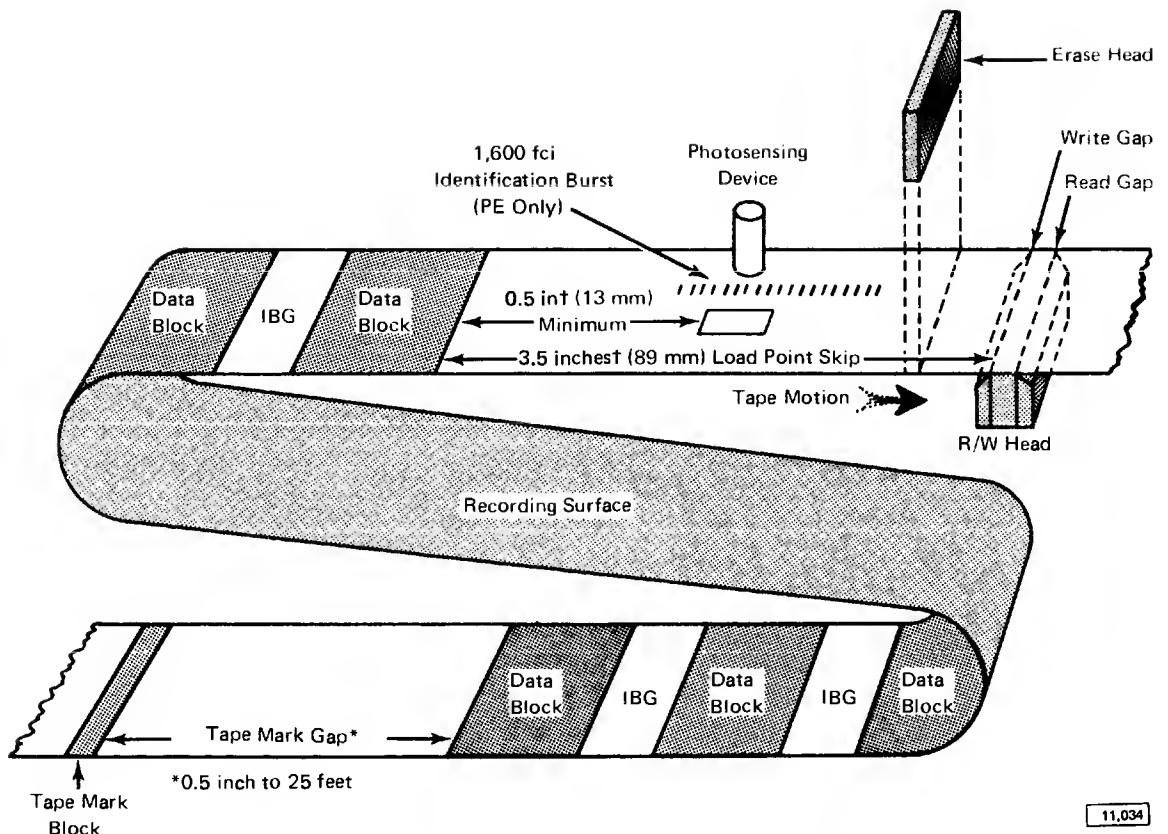

Figure 31. Organization of Blocks on Tape
*Interblock Gap (IBG):* The size of the IBG is 0.50 inch minimum, 0.60 inch nominal, measured from the LRC character to the first data byte of the next block (Figure 31).
*Organization of Blocks on Tape:* See Figure 31.
**Organization of Blocks on Tape:** See Figure 31.
*Interblock Gap (IBG):* The size of the IBG is 0.680 inch minimum, 0.750 inch nominal, measured from the LRC character to the first data character of the next block (Figure 31).